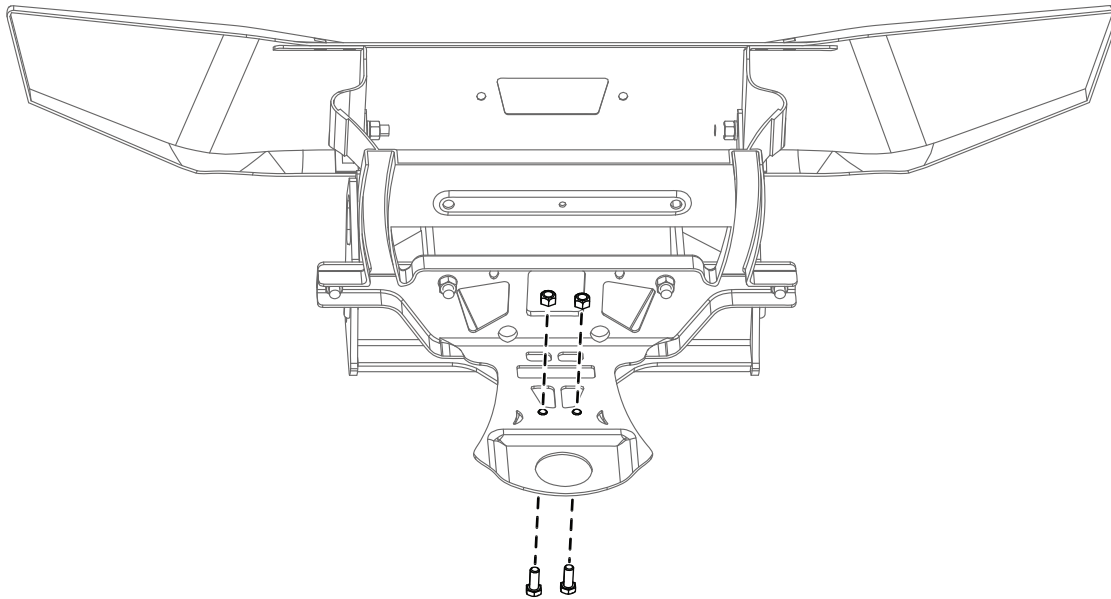

Figure 3
- Loosely secure the bottom of the undercarriage skid plate to the vehicle frame using 2 bolts (M10 x 1-1/2 inches) and 2 locknuts (Figure 3).